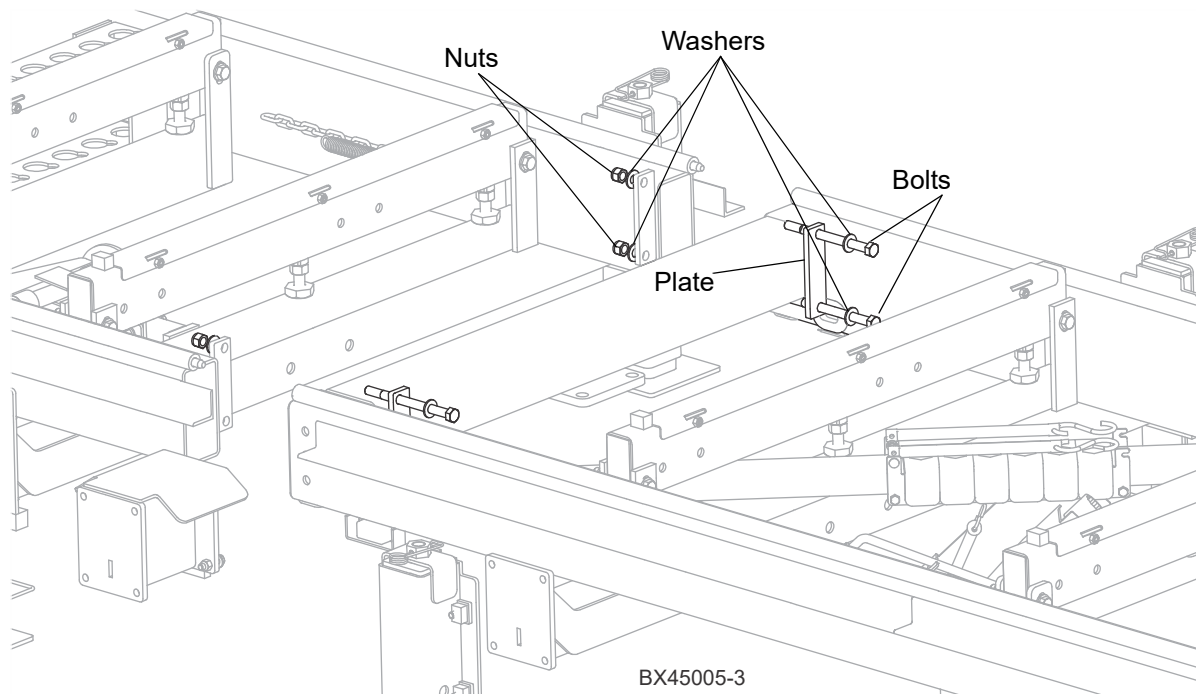

FIG. 1-2
4. Secure the frames together with the plates, bolts, flat washers, and nuts as shown in Fig. 1-2